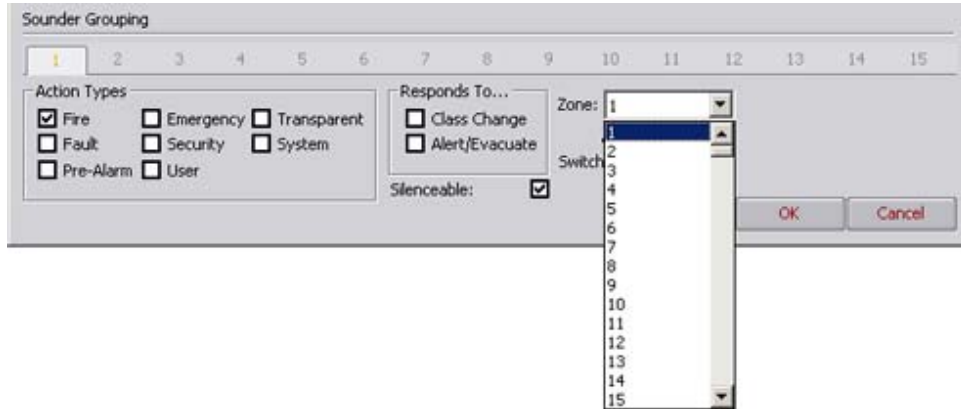

Figure 3: Sounder Grouping
- Zones are assigned to Sounder Groups at loop level (Figure 3)
- Sounder Group activation attributes are settable at loop level (Figure 3)
The grouping block consists of two types of fields: (Figure 3)